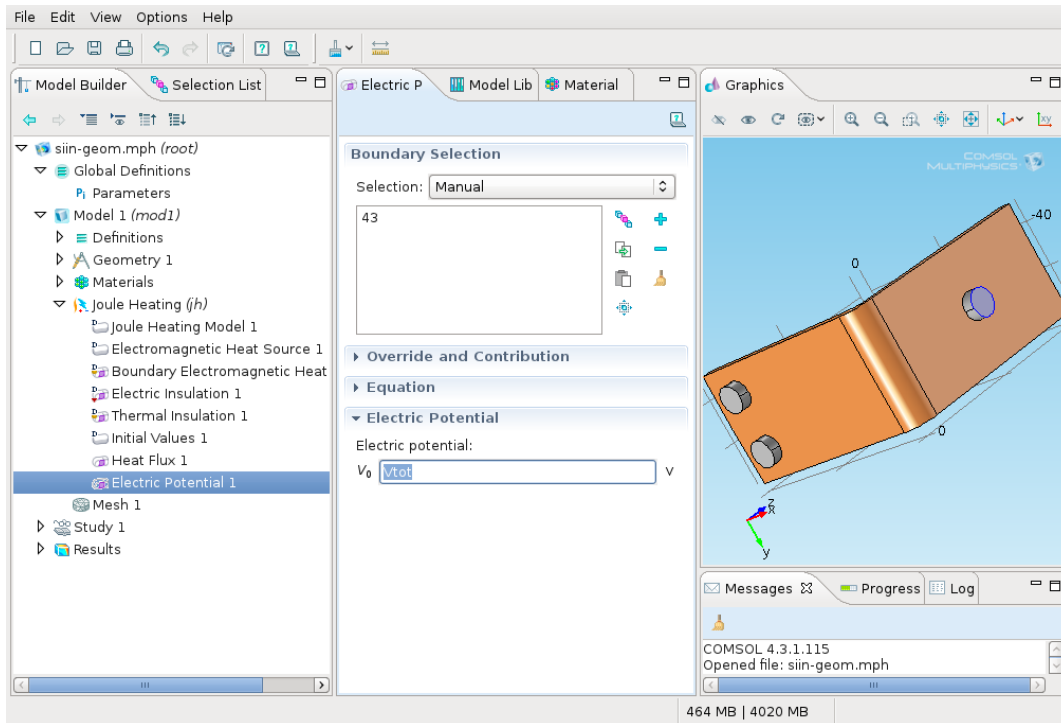

Figure 33: Boundary conditions: *Electric Potential 1*.
- click on the circular bottom of the upper polt and add this boundary *43* into the *Selection* list (Fig. 33);